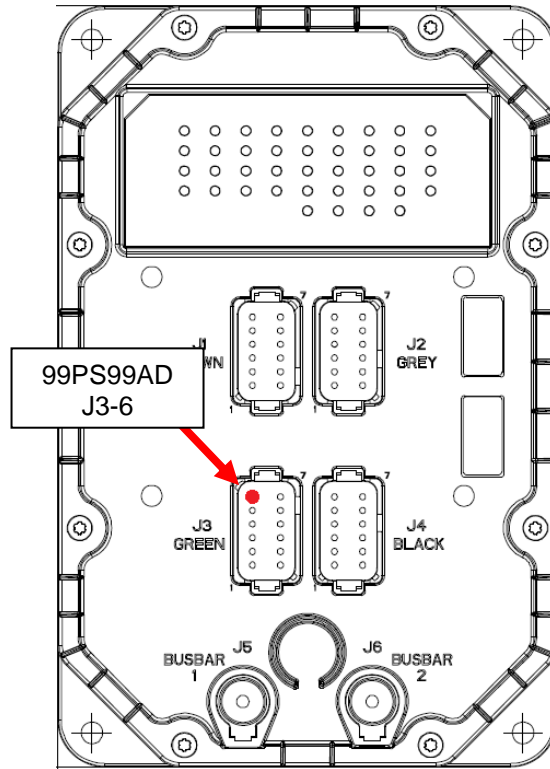

Figure 13 – Node 14 (J3-6 detail)
16. Insert one end of wire 99PS99AD to connector XRR53_SHR and the other to J3-6 on Node 14 (Figure 13).